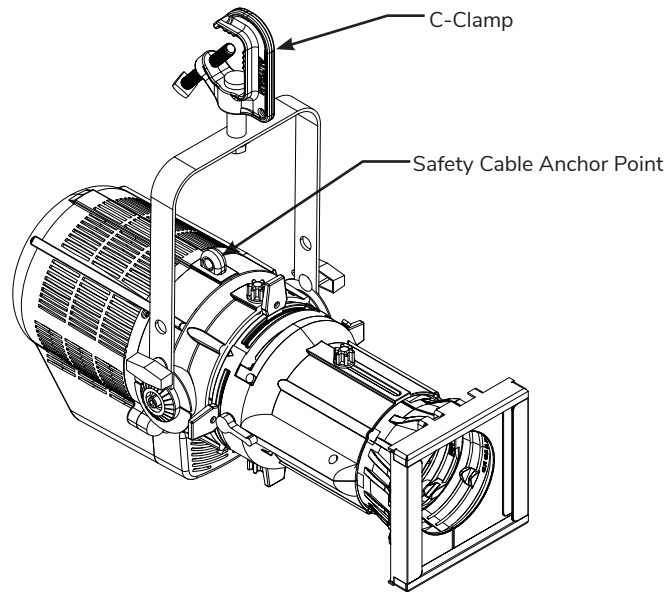

Figure 4: Safety Cable Installation
1. With luminaire on a flat, sturdy surface, position yoke assembly for easy access as illustrated in Figure 4.